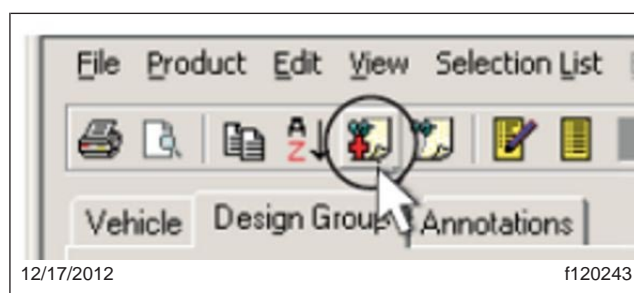

Fig. 17, Add Annotation Icon
2. In the "Design Group" tab, click the Add Annotation icon. See Fig. 17.